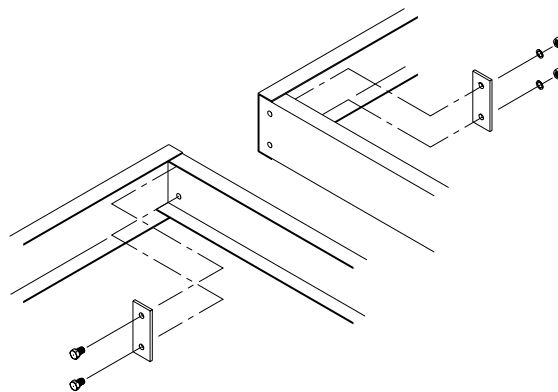

Figure 7
1. Select one of the mobile bases and place on the rails. If there is more than one (1) section, bolt all sections together using the supplied splice plates and bolts. (See Figure 7).
3. Place static base on the rails as indicated on the rail placement drawing(s). If there is more than one (1) section, bolt all sections together using the supplied splice plates and bolts. (See Figure 7).
1. Place mobile bases on the rails. If there is more than one (1) section, bolt all sections together using the supplied splice plates and bolts. (See Figure 7).